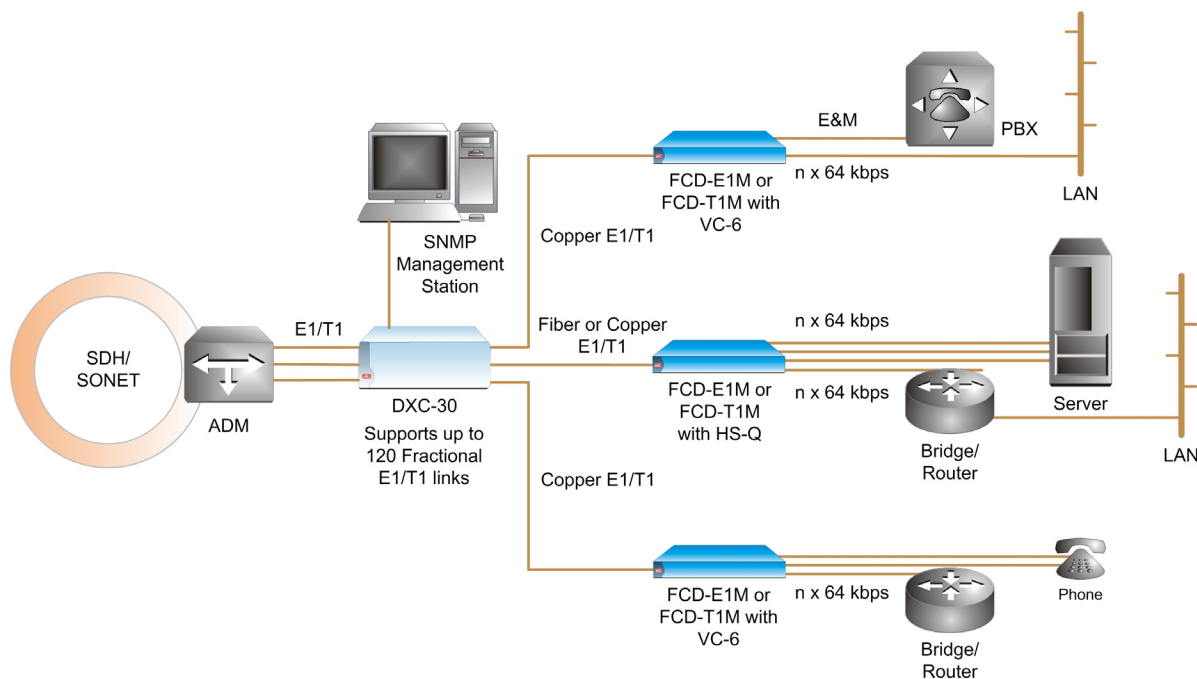

Figure 2. SDH Access Solution for Multiple Remote Sites
- The units also operate opposite RAD's modular DXC multiservice access node or other vendors' E1/T1 equipment, for multilink star applications, such as access to SDH networks. The DXC and FCD units operate together with centralized SNMP network management (see *Figure 2*).